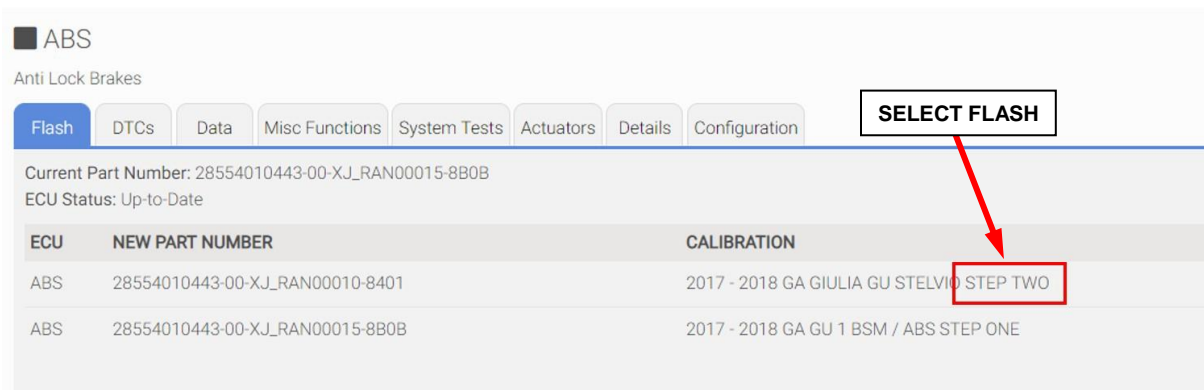

Figure 6 – Second Flash ABS / BSM “STEP TWO”
20. From the ABS “**Flash**” tab, select the ABS flash “**STEP TWO**” and proceed with the second reprogramming procedure (Figure 6).